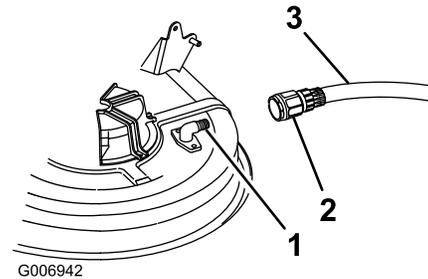

Figure 64
4. Attach the coupling (not included) to the cutter deck washout fitting and turn the water on high (Figure 64).